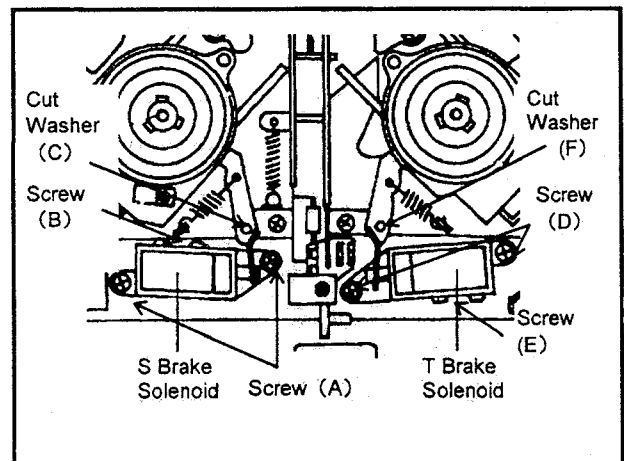

Fig. M14
3. Unscrew the 2 screws (A) to remove the Supply Brake Solenoid and unscrew the screw (B) to remove the Solenoid base as shown in Figure M14.
4. Remove the cut washer (C) to remove the Supply Brake Arm.
5. Unscrew the 2 screws (D) to remove the Take Up Brake Solenoid and unscrew the screw (E) to remove the Solenoid base as shown in Figure M14.
6. Remove the cut washer (F) to remove the Take Up Arm.